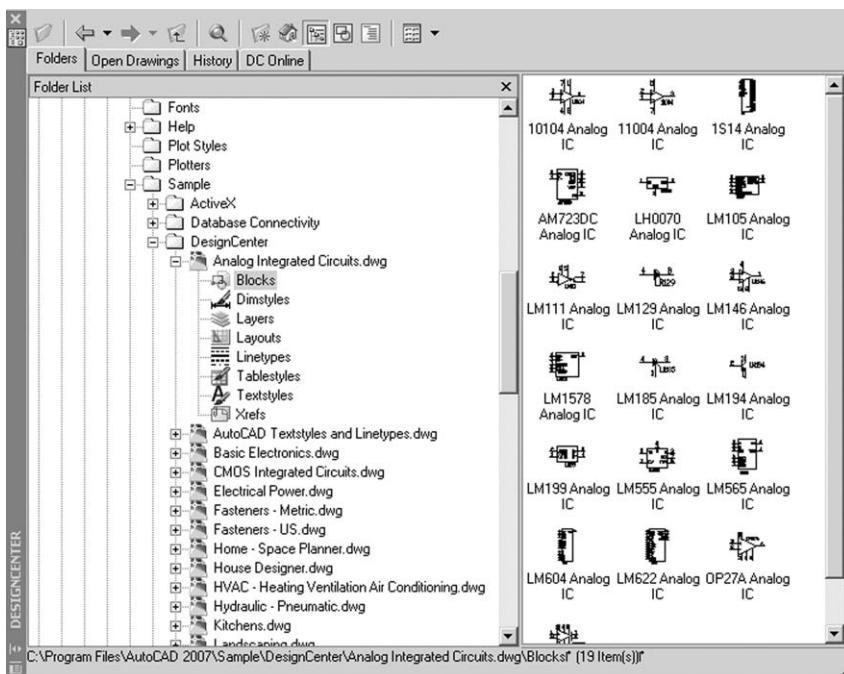

Figure 31.8 The AutoCAD blocks from the folder C:\program Files\AutoCAD 2007\Sample\DesignCenter\Analog Integrated Circuits.Dwg.
- c) Figure 31.8 should be the result of the various ‘explore’ operations.